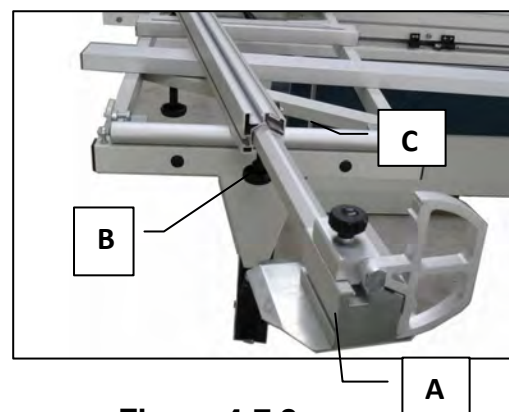

Figure 4-7.3
For cutting panels of width exceeding 1860mm, you have to use the extension part A (Fig. 4-7.3) and follow steps below:
1. Loosen knob B (Fig. 4-7.3)
2. Move extension part A (Fig. 4-7.3).
Note: point C (Fig. 4-7.3) indicates the width value.
3. After move the extended millimeter rule to your desired length by read out the value from point F (Fig. 4-7.3), tighten the knob B (Fig. 4-7.3) for fixing.